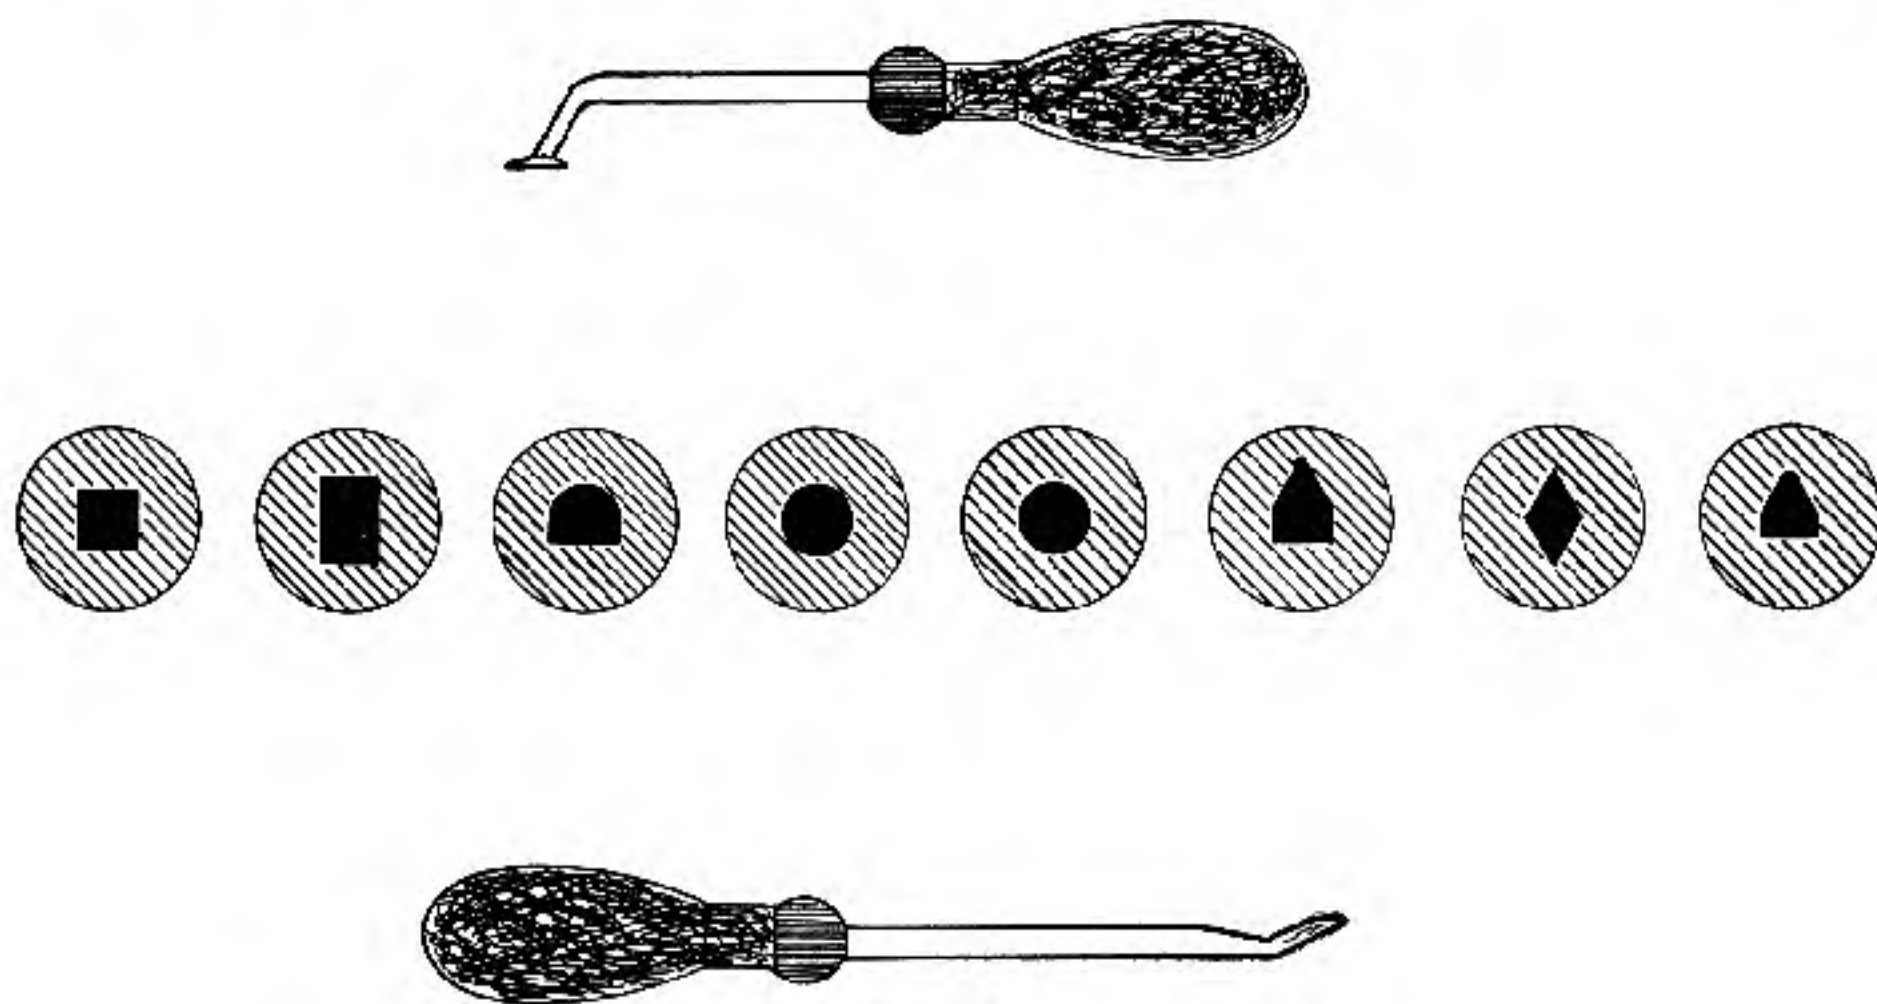

Fig. 28
**Bottoming Chisels** — These tools can not be purchased, so they must be made by the student. The ordinary carving or small straight chisels are not adapted to many operations, especially the in-letting of shotgun actions into stocks. Bottoming tools are made from  $\frac{3}{16} \times \frac{5}{16}$ -inch tool steel, forged and filed to shape. Figure 28 illustrates the forms most used to meet requirements. These are